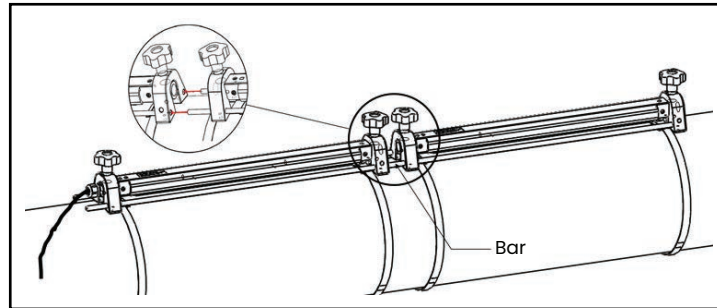

Figure 15: Two traverse installation with two clamp-on fixtures
2. Hold one of the clamp-on fixtures, with two transducers and one cable, against the pipe between the upstream pair of straps and move the two mounting straps onto the fixture (see *Figure 15* below). Then, tighten the screws on the mounting straps, and verify that the straps remain in place on the fixture.